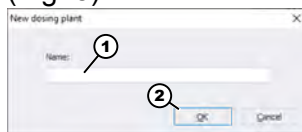

Fig. 8: Dosing plant input window
⇒ The program opens an input window for entering the name of the dosing plant (Fig. 8).
3. In the input window (Fig. 8), enter the required name of the dosing plant (e.g. Plant I) and confirm with [OK] (Fig. 8, item 1).